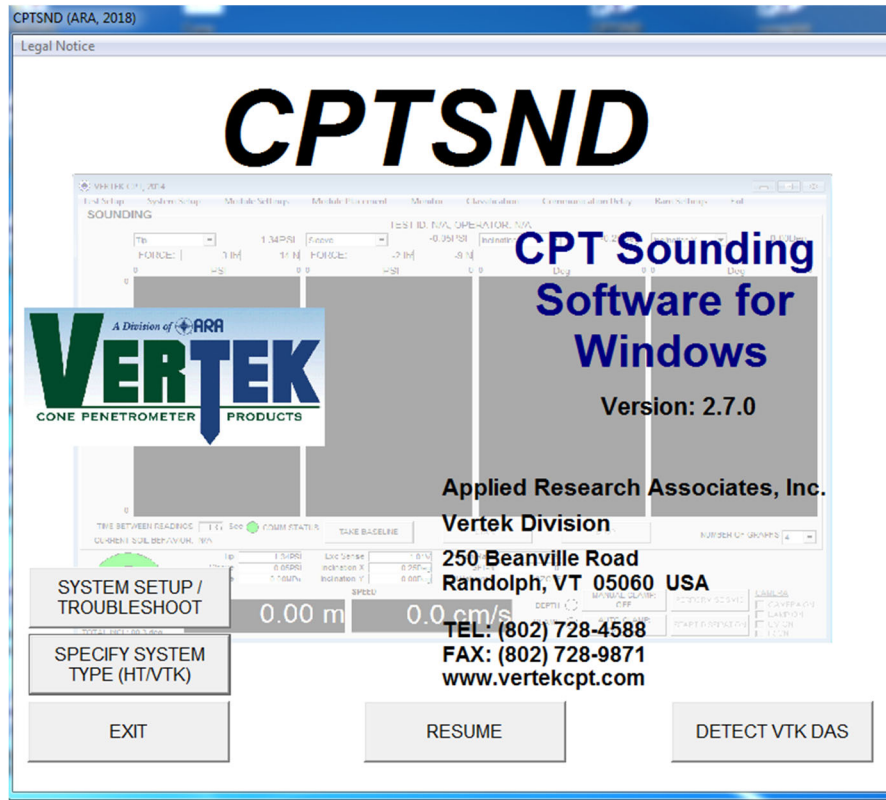

Figure 21 CPT SND Software Main Screen
To setup the software, start the computer and double click on the CPTSND icon. This brings up the main screen as shown in Figure 21
CPT SND now will determine what ports the data system has been assigned and will search for the selected modules simply by clicking on DETECT VTK DAS (see fig 21)
**ENCODER SET UP** The optional optical encoder can only be selected in the SYSTEM SETUP/TROUBLESHOOT screen (ref figure 21 & 22). This cannot be changed after detecting the VTK DAS.